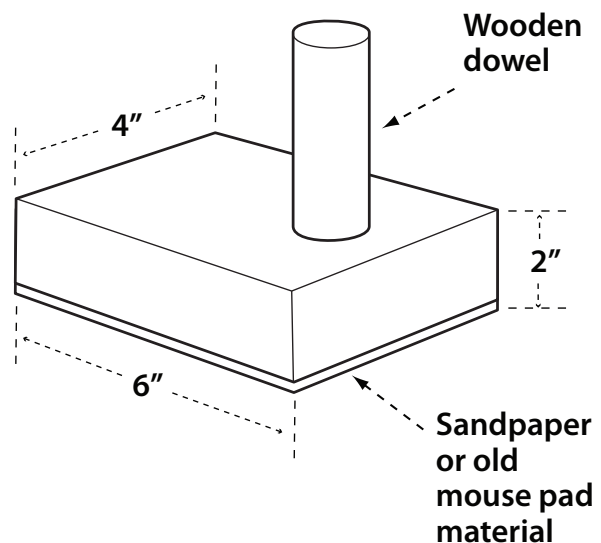

FIGURE 31
3. Glue a piece of rough or soft material such as sandpaper or rubber to the bottom of the block to grip the workpiece (old mouse pads work well). See Figure 31.